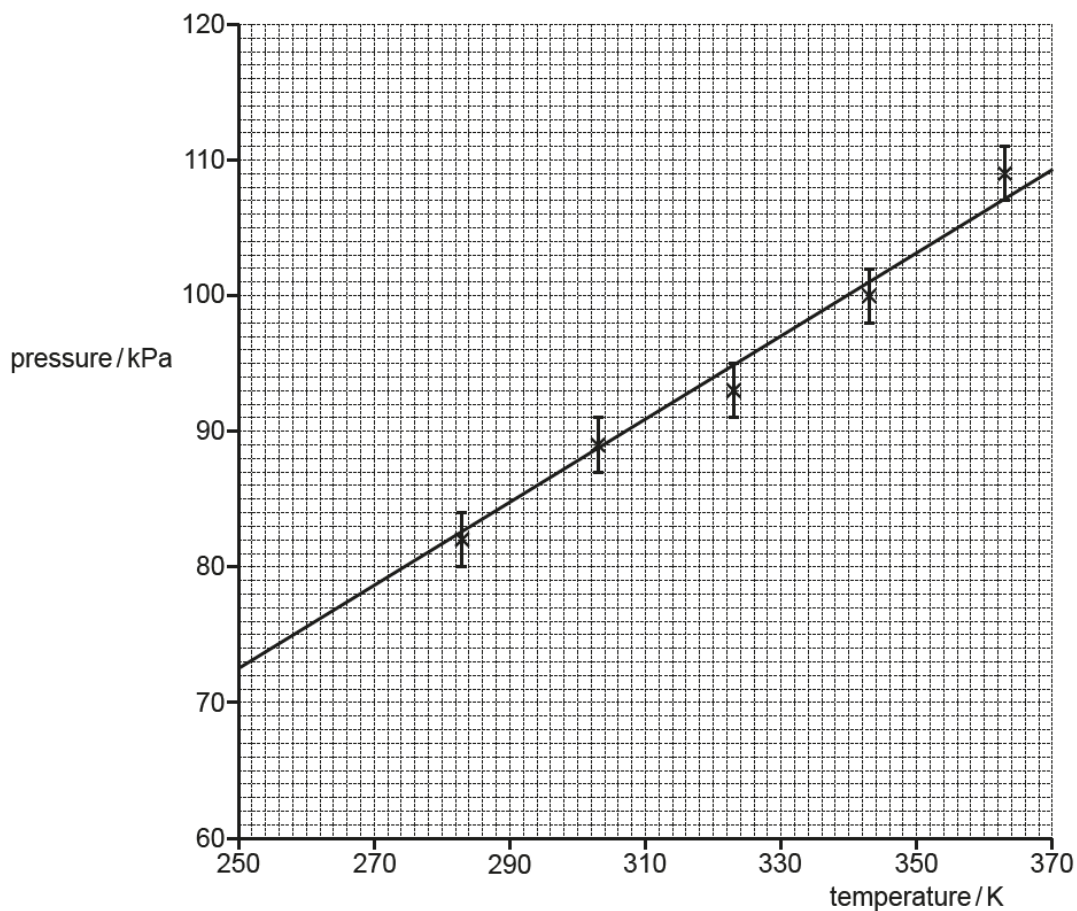

Fig. 4.2
- (ii) Fig. 4.2 shows the graph of the data collected, including the uncertainty in the pressure readings.
On Fig. 4.2, add a worst-fit straight line that gives the **maximum** gradient.